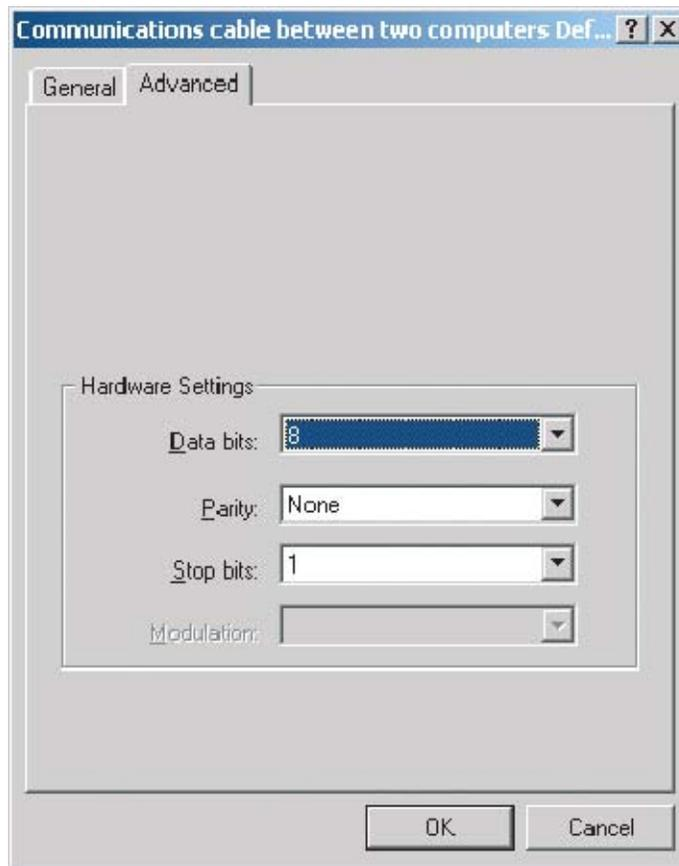

Figure 142: Change Default Preferences - Advanced tab
8. Click the Advanced tab. See Figure 142: Change Default Preferences - Advanced tab on page 210.